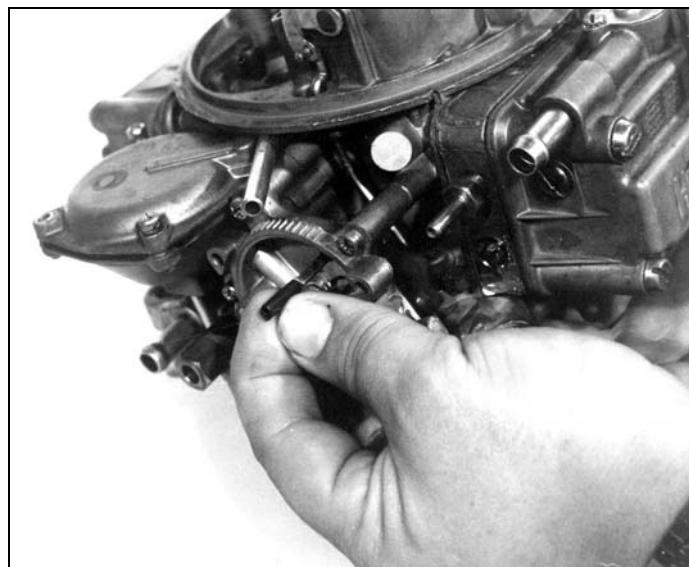

Figure 2
3. Remove the choke gasket, and install the piece of shrink tubing over the choke tang (See NOTE in line #4 and Fig. 2).